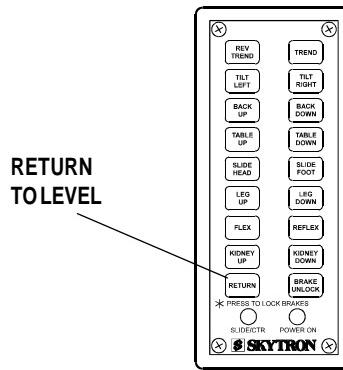

Figure 2-12.
**j. Return To Level.** To return the table top to a level position, press the RETURN button (figure 2-12).